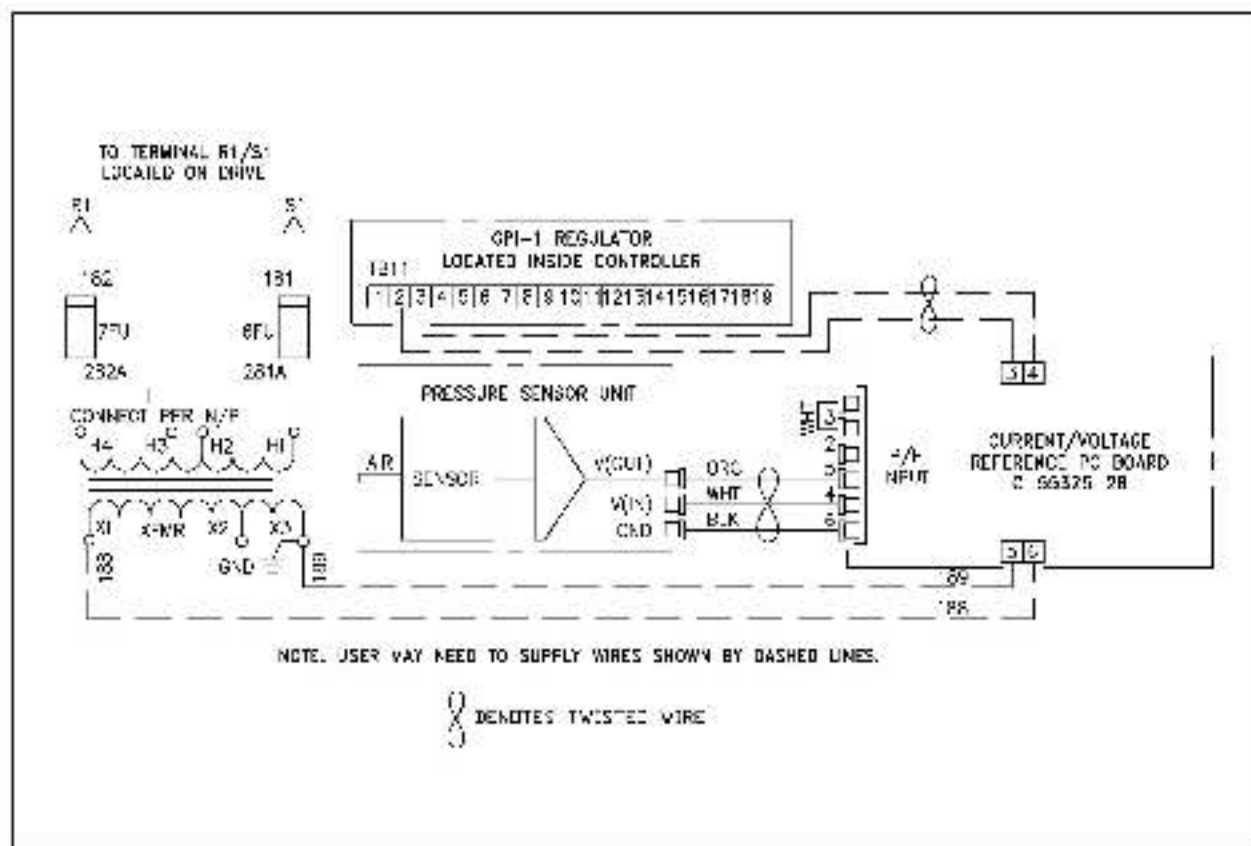

Figure 2. Pressure-to-Electrical Transducer Connection Diagram (1–10 HP 230/208 V, 1–20 HP 460/380 V, and 1–20 HP 575 V without Expanded Cabinet).
5. Using wire harness 608813-112X or wire selected in accordance with all applicable codes, connect from terminals 3 and 4 on the Current/Voltage Reference Isolator PC Board to TB11 terminals 2 and 3 on the regulator board. Refer to Figure 2 for wiring detail. Note: If a Control Signal Buffer Kit is installed, connect from terminals 3 and 4 on the Current/Voltage Reference Isolator PC Board to TB11 terminals 2 and 3 on the Control Signal Buffer PC Board.
6. Using wire harness 608813-112V connect from terminals 5 and 6 on the Current/Voltage Reference Isolator PC Board. Connect harness 608813-112W to terminals 188 (X1) and 189 (X3) on the transformer. Plug the two harnesses together. This connection provides a convenient means of disconnecting power to the Current/Voltage Reference Isolator PC Board while troubleshooting. Refer to Figure 2 for wiring detail.
7. Using wire harness 708205-50R connect from terminals H1 and H2, H3, or H4 (per nameplate specifications) to one end of the fuse block. Refer to Figure 2 for wiring detail.
8. Using wire harness 708205-50S connect from terminals R1 and S1 located on the controller, to the other end of the fuse block. Refer to Figure 2 for wiring detail.
9. Using the wire harness supplied with the pressure sensor unit (transducer assembly), connect from the Current/Voltage Reference Isolator PC Board to the pressure sensor unit. Refer to Figure 2 for wiring detail.
10. Connect ground jumper 708205-53D from transformer terminal 189 (X3) to an appropriate grounding location. Refer to Figure 2 for wiring detail.